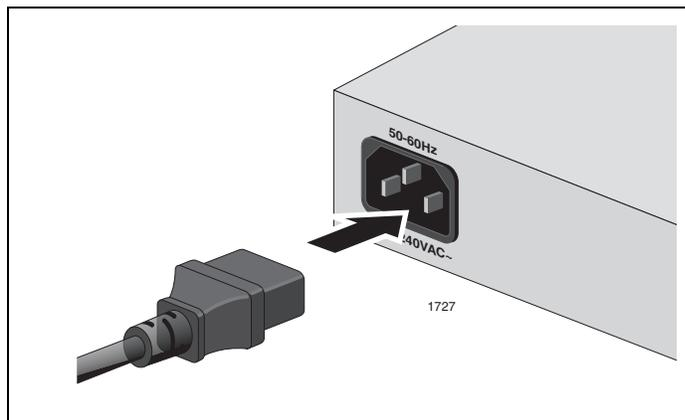

Figure 19. Plugging in the AC Power Cord
1. Plug the power cord into the AC power connector on the back of the switch, as shown in Figure 19.